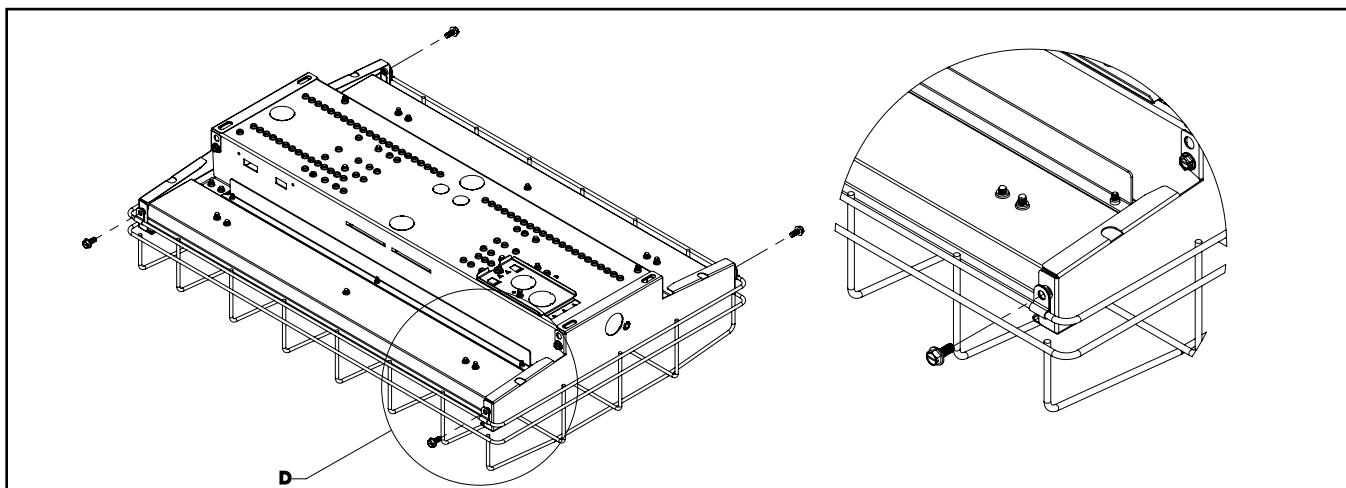

Figure 6.
6. Install and tighten the 4 #10 x 3/8" sheet metal screws through the mounting clips and into the end plate holes as shown in (Figure 6).